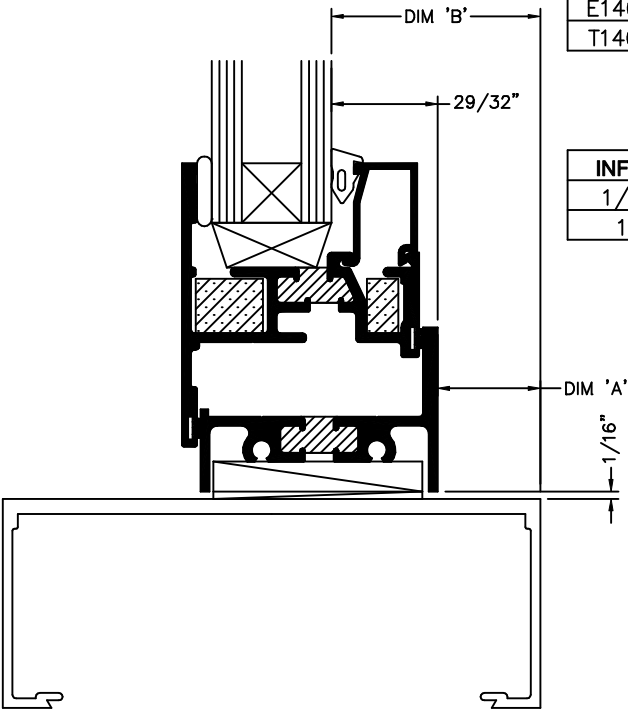

FIGURE 2
- A. FOR TUBELITE FLUSH GLAZE FRAMING, REFER TO TABLE 1 AND FIGURE 2 & 3, FOR LOCATION.
- B. FOR OTHER TYPES OF FRAMING, SEE TABLE 2 AND FIGURES 2 & 3 FOR LOCATION.